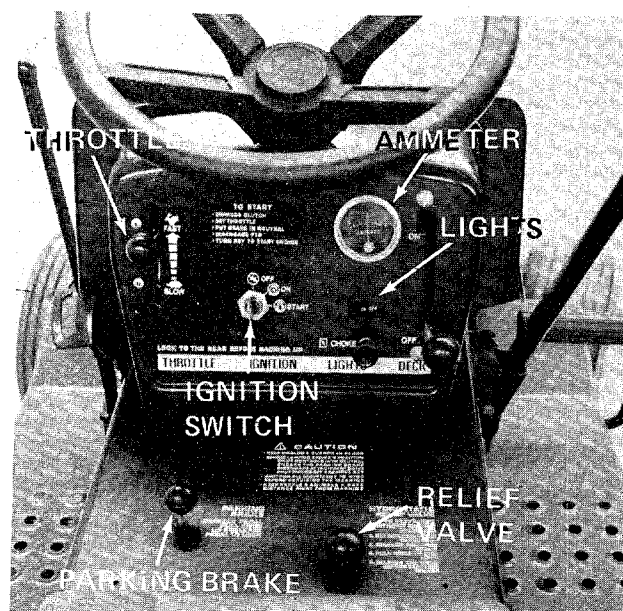

FIGURE 9.
The ignition switch is located in the center of the dashboard. Turn the key to the START position to start the engine. When the engine is running, leave the key in the ON position. To stop the engine, turn the key to the OFF position. See figure 9.
The throttle control is located on the left side of the dashboard and is used to regulate the engine speed. See figure 9. The engine should be operated from 3/4 to full throttle (FAST) when operating any equipment that uses the tractor engine as a source of power such as the mowing deck, snow thrower or rotary tiller. See figure 9.
The head lamps are operated by pushing the light switch located on the dashboard. The head lamps will only operate when the engine is running. See figure 9.
With a fully charged battery or with the engine idling, the ammeter may not show a charge. The maximum charging rate is 3 amps. The head lamps operate directly from the engine alternator and do not register on the ammeter. See figure 9.
To set the parking brake, depress the clutch-brake pedal and pull up the parking brake knob. It will stay in the raised position. To release the parking brake, depress and release the clutch-brake pedal. See figures 9 and 12.
To move the lawn tractor without the engine running, pull up the relief valve and lock it in the raised position. This allows the rear wheels to roll. See figure 9.
1. Unscrew the parking brake and relief valve knobs. See figure 9.